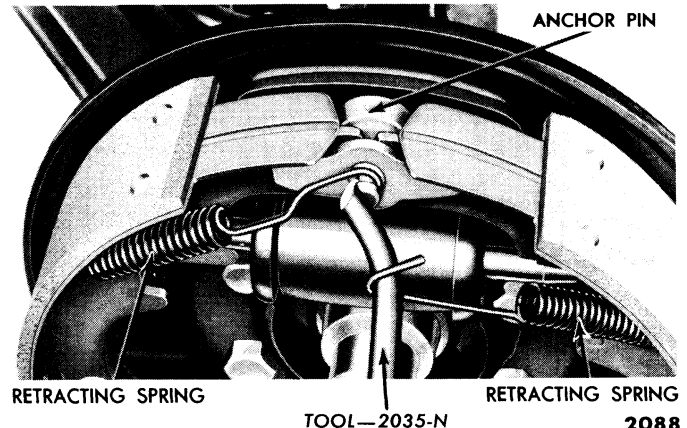

Fig. 12—Brake Shoe Retracting Spring Installation
(4) **INSTALLATION.** Install the wheel cylinder on the brake carrier plate. Position the webs of the brake shoes in the slots in the wheel cylinder to brake shoe links, then install the brake shoe retracting springs with the tool shown in fig. 12. Remove the wheel cylinder clamp or wire, then install the brake drum and the wheel. Connect the brake hose (front) or brake pipe (rear) to the wheel cylinder, then adjust and bleed the brakes.
Place the anchor pin plate on the anchor pin, then install the brake shoe retracting springs with the tool shown in fig. 12.